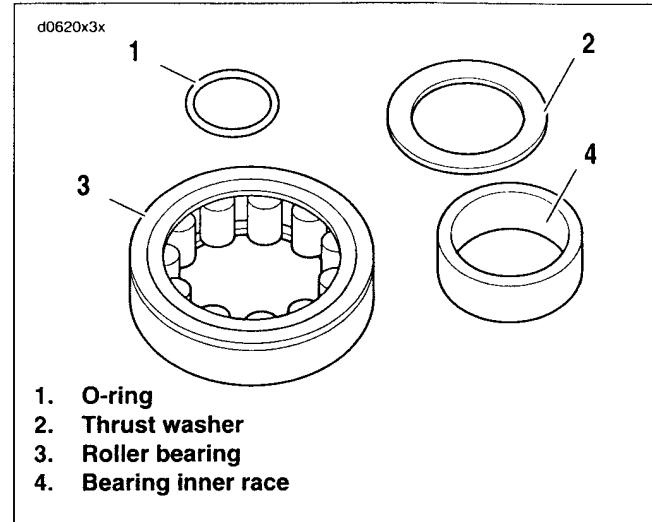

Figure 3-135. Rear Cam Roller Bearing Kit
1. See Figure 3-135. Obtain new rear cam roller bearing kit (Part No. HD-8983).
- a. To properly locate thrust washer (2), first install O-ring (1) in grinding relief groove. Groove is on the splined end between the machined area and the secondary cam sprocket. Exercise caution to avoid stretching or breaking the O-ring. Since the O-ring is not sold separately, damage will require purchase of a new roller bearing kit.